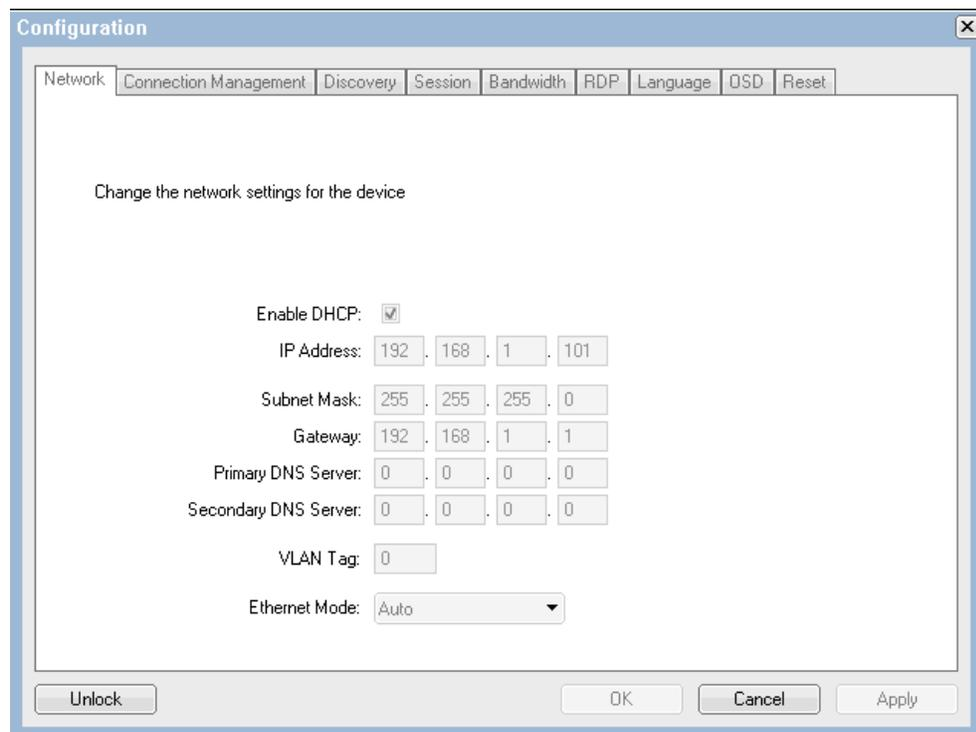

Figure 6-62 The Network tab showing the CP20 IP address
3. The IP address that the CP20 is using (static or DHCP-assigned) is shown in the Network tab, similar to Figure 6-62.